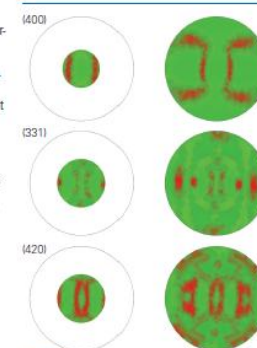
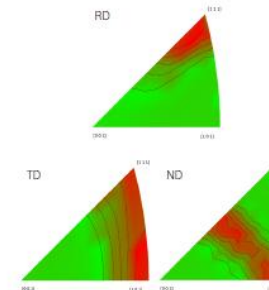
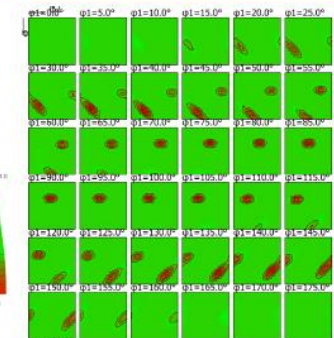

Figure 1
Figure 3
Figure 4
The data was then imported into DIFFRAC.TEXTURE where the phi scans were converted into pole figures, shown in Figure 1. This process occurs automatically using metadata from the measurements. Corrections for absorption related to the iso-inclination method are applied automatically. Auto-Indexing of the pole figures was carried out using the included materials database.
Fitting of the pole figures was accomplished with the component method. In this case, a single elliptical component with a monoclinic process symmetry was employed. Figure 1 shows the resulting recalculated pole figures. By having access to all 3 pole figures and using crystallographic symmetry, the peripheral areas are filled in. Figure 3 shows the resulting recalculated pole figures for the RD, TD and ND directions. A strong (111) texture is observed in rolling direction, with a (101) to (112) fiber observed in the normal direction and (111) to (101) fiber in the transverse direction. For a more comprehensive picture, the orientation distribution function, ODF, is shown in Figure 4.